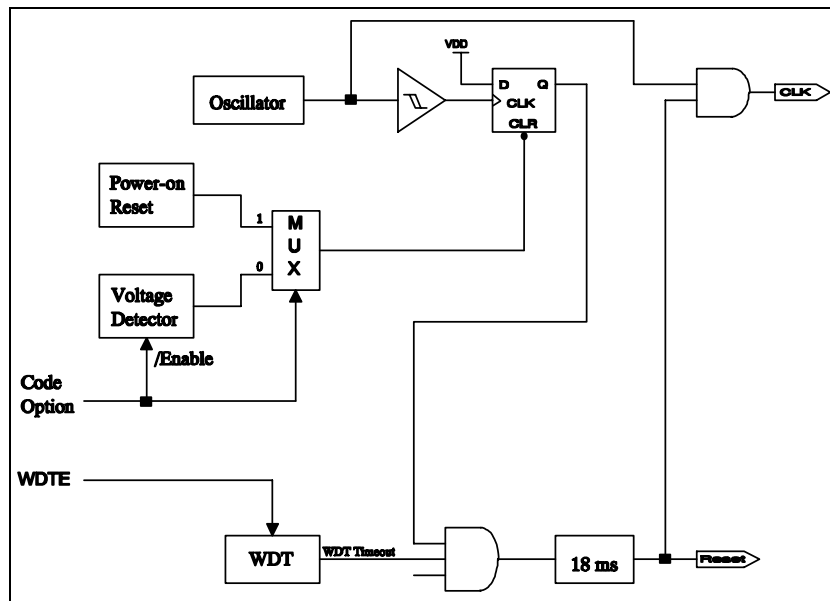

Fig 7-7 Controller Reset Block Diagram
Note that only Power-on reset, or only Power-on voltage detector reset in Case (2) is enabled in the system by Code Option bit. If /POVD is disabled, Power-on reset is selected in Case (2). Refer to Fig 7-7.